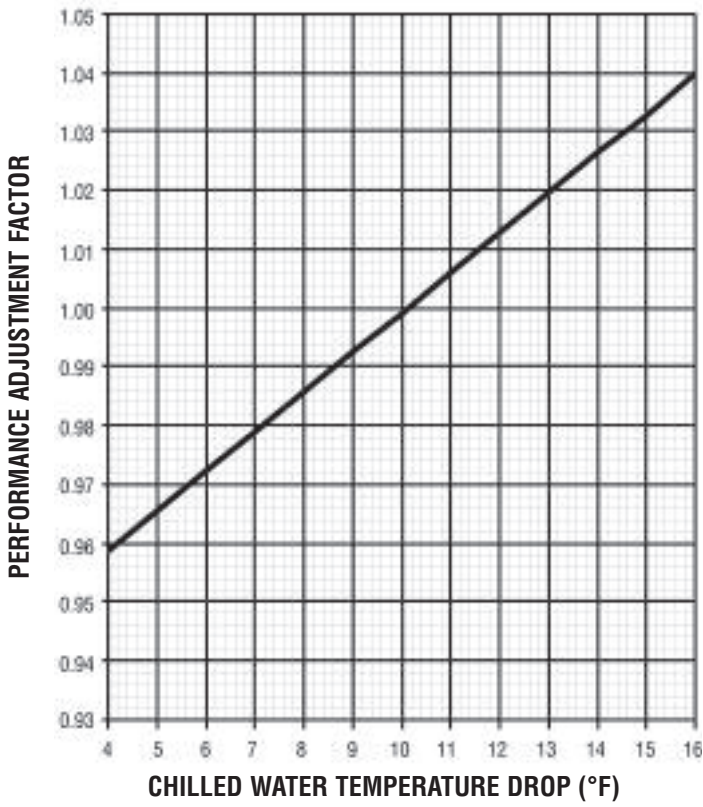

Figure 1. Performance Adjustment Factor
Capacity tables are based on a 10°F temperature drop through the evaporator. For other than 10°F temperature drop, apply the respective performance adjustment factors from **Figure 1**.
1. Use **Figure 1** adjustment factor to convert tons at 12°F to equivalent tons of 10°F for use with capacity tables.
At 12°F temperature drop, applying **Figure 1** performance adjustment factor results in:
If a water temperature drop greater or less than 10°F is required, begin by first multiplying the CAPACITY using the performance adjustment factor from **Figure 1**.